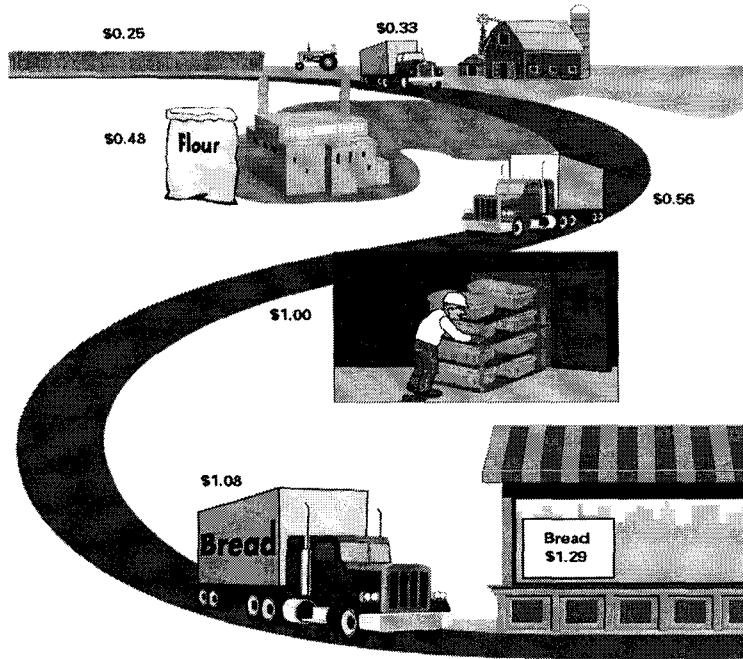

Figure 1
1. Explain the meaning of the figure 1 in the scope of Logistics & Material Handling System? (10 points)